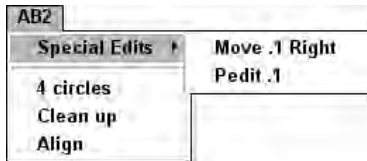

Figure 33-8: The AB2 menu, including the submenu
9. Choose the Menu Bar tab. Choose **AB2** from the Menu Group drop-down list. In the Menu Bar list, choose **Window** so that your menu will be inserted just before the **Window** menu. Choose **Insert**. AutoCAD inserts the menu. Choose **Close**. The menu should look like Figure 33-8. Notice the submenu and the dividing line.